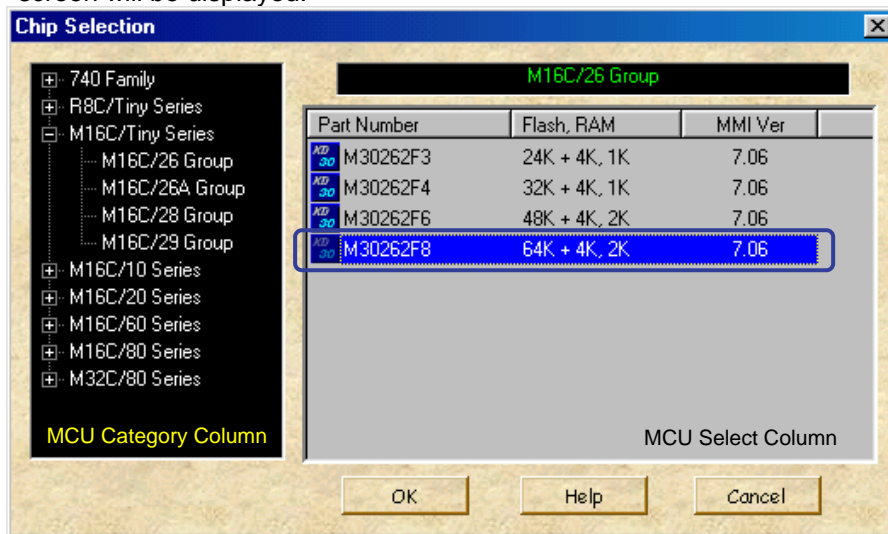

Figure 4-21 Chip Selection screen
- 2) When pressing the "Select MCU" button, the screen shown in Figure 4-21 is displayed. Select the Target MCU in this screen.
First, select the category of the Target MCU to be used from the MCU Category Column (M16C/26 Group is selected from M16C/Tiny Series in Figure 4-21). Next, select the Target MCU to be used from the MCU Select Column. If the MCU which is indicated by highlight is double-click or <OK> button is clicked, the confirmation screen will be displayed.